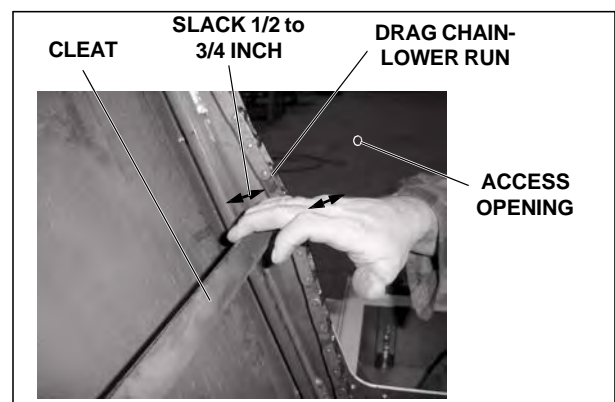

Figure 6. Checking Tension of Drag Chain
6. Check chain tension as shown in Figure 6. Chain slack at this position should be approximately 1/2 to 3/4 inch (13 to 19 mm).
8. Adjust chain tension with the take-up bolts, Section 4.4. Check tension as shown in Figure 6. Chain slack at this position should be approximately 1/2 to 3/4 inch (13 to 19 mm).